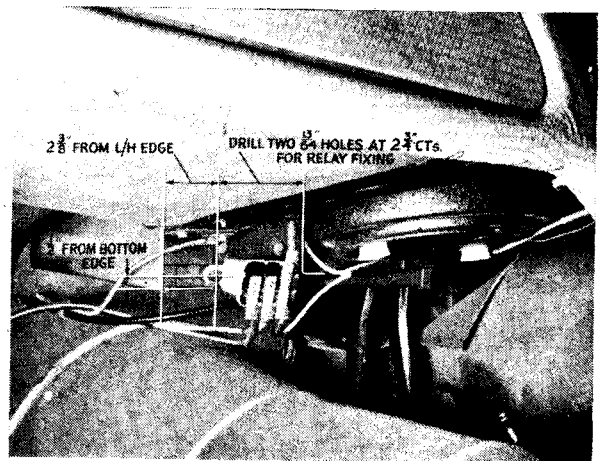

Fig. 40 Instructions for fitting the Relay Switch.
**The Relay.** Reference to Fig. 40 shows the fitted position of the relay.